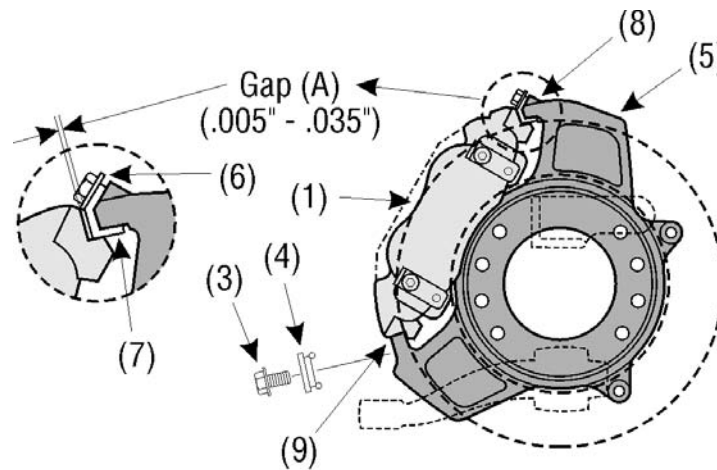

Figure 1
- E. Wire brush support rails (8) and (9). Wire brush rail surfaces of the caliper.
- F. Reinstall caliper (1) on support (5).
- G. Reinstall retainer (7).
- H. With the caliper (1) in place on the support (5), pull out on the top end of the caliper as if to remove it from the support. This will open up a gap (A) between the caliper rail and the retainer (7). See figure 1.
- I. Place a screwdriver or other suitable wedge shaped device in the gap between the rail surfaces at (A) to maintain the gap when measuring.
- J. Measure the gap at (A) with feeler gauges. If measurement is within limits shown (see chart), no shims are required.